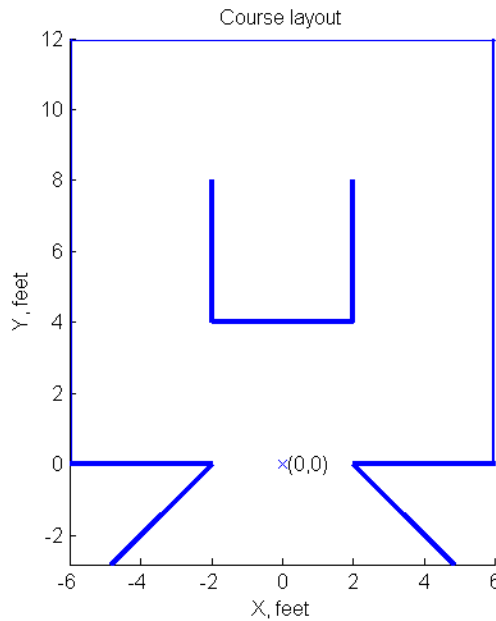

Figure 1: World Coordinate System
3. By default, the LADAR data seen on the robot's color LCD is displayed in the robot's coordinate frame. So (0,0) is the center of the robot. You can also change the LCD to display LADAR readings in "World" coordinates. See Figure 1 for the definition of the World coordinate system. In `user_colorVisionFuncs.c` scroll down towards the end of the function `userProcessColorImageFunc_laser` and find the function call to `UpdateLCDwithLADAR(ptrImage,0)`; The second parameter can either be 0 (robot coordinate frame) or 1 (World coordinate frame). Change the 0 to a 1 and rebuild and run your project. Then when your project is running, add the structure variable `ROBOTps` to Code Composer's "Watch Window." Change the value of `ROBOTps.x`, `ROBOTps.y` and `ROBOTps.theta` and notice what happens to the location of the robot and its LADAR data on the LCD screen. In your final project you will be updating this `ROBOTps` structure with the actual location of the robot.